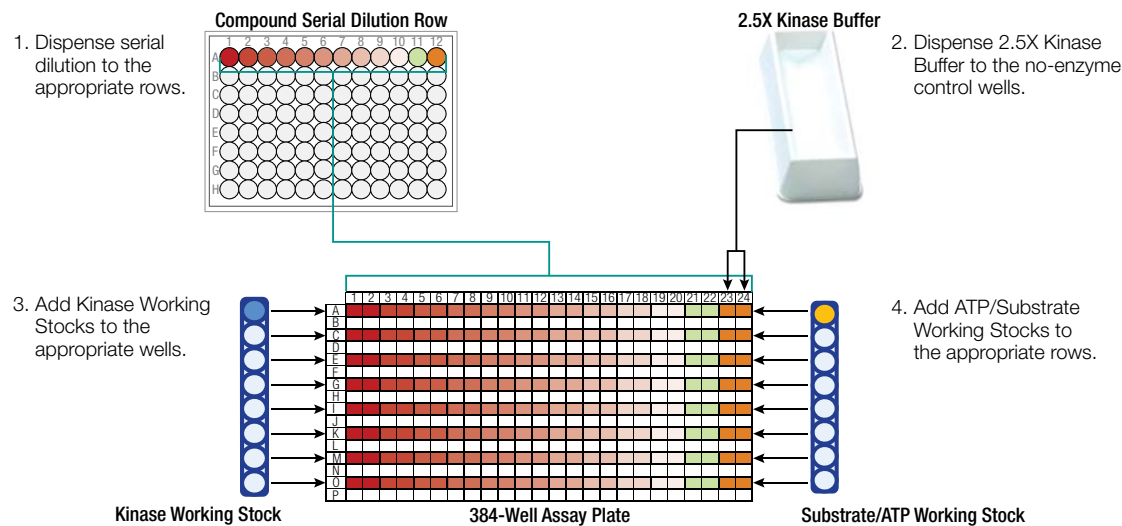

Figure 5. Experimental setup for creating a compound dose-response curve using the Kinase Selectivity Profiling Systems.
- Using a multichannel pipette or automated pipetting station, transfer 1 μ l of each compound serial dilution from the compound serial dilution row of the 96-well plate to each well in duplicate columns of alternating rows (i.e., rows A, C, E, G, I, K, M, O) of a 384-well plate. Do not add compound to the remaining rows (i.e., rows B, D, F, H, J, L, N, P). This is your assay plate, and rows A, C, E, G, I, K, M, O are the assay rows. See Step 1 in Figure 5.
- Transfer 2 μ l of 2.5X Kinase Buffer to wells 23 and 24 of the assay rows of the assay plate. These wells are the no-enzyme controls (see Step 2 in Figure 5).
- Transfer 2 μ l of the Kinase Working Stocks to wells 1 through 22 of every assay row of the assay plate (see Step 3 in Figure 5).